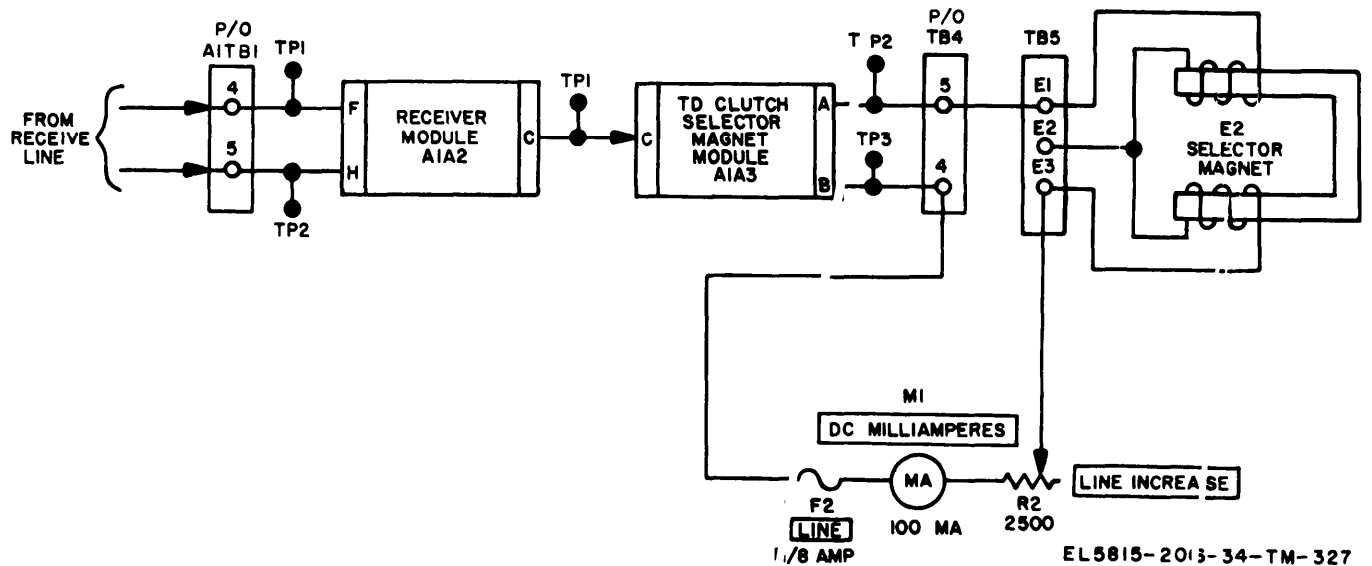

Figure 2-69. Page printer receive circuit, simplified schematic diagram, TT-698(\*)/TG.
*b. Receive Circuit TT-698(\*)/TG (fig. 2-69).* The receive circuit is used to accept polar mark and space impulses from external signal lines connected to terminals 4 and 5 of terminal board A1TB1. The coded impulses are applied to the receiver module, which amplifies the impulses. The amplified impulses are sent to the TD clutch selector magnet driver module which controls the selector magnet, which in turn governs the position of mechanical parts within the selector mechanism.